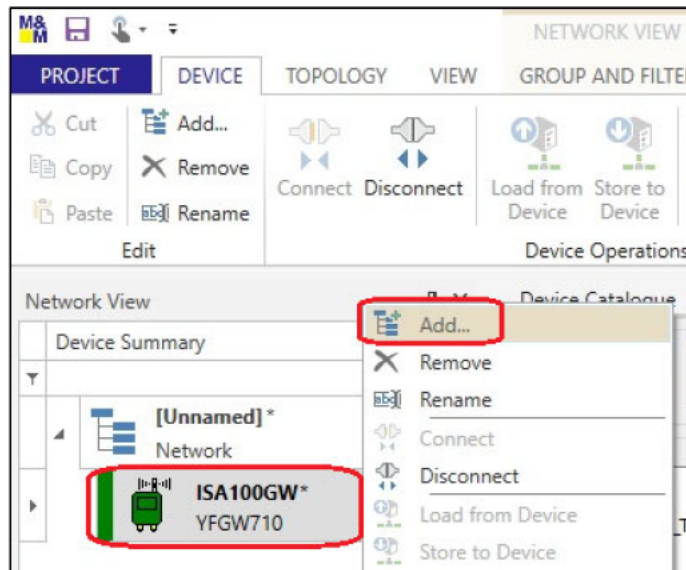

Figure 5-44 Selecting “Add...” menu
- ⑥ Next, launch the DTM for the SDWL-1. Right-click “ISA100GW” in the tree menu on the left side of the main window, then select “Add...”. (Figure 5-44)